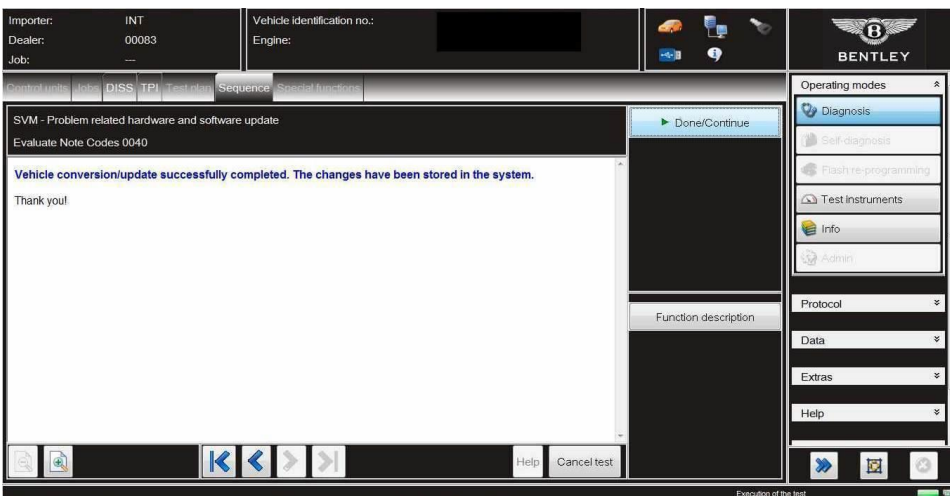

Figure 6
- Once the software update is completed for both engine control modules, a confirmation screen will be evident to clarify the update has been successful (Figure 6)